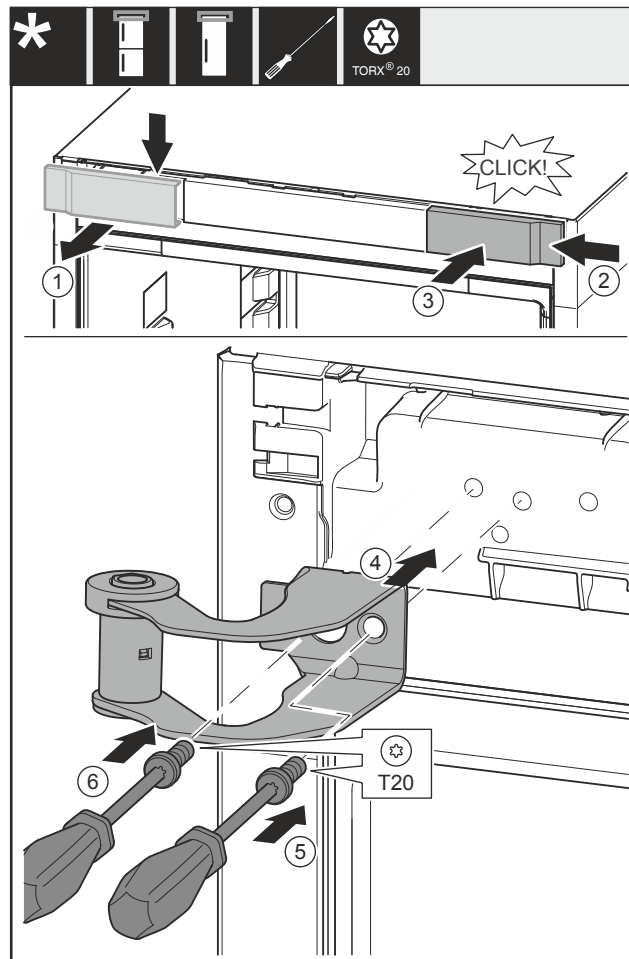

Fig. 16
- Remove the cover Fig. 16 (1) from above towards the front.
- Turn the cover Fig. 16 (2) by 180° and attach to the other side from the right.
- Engage the cover Fig. 16 (3).
- Place the top swap bearing block Fig. 16 (4).
- Screw the screw Fig. 16 (5) tight.
- Screw the screw Fig. 16 (6) tight.